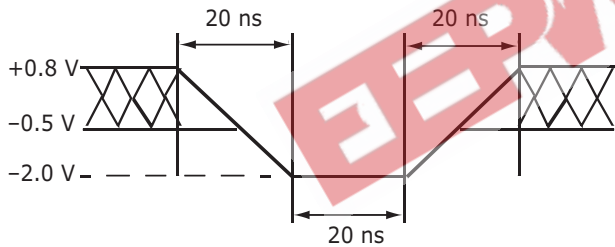

Figure 8. Maximum Negative Overshoot Waveform
2. Minimum DC input voltage on pins ACC, A9, OE#, and RESET# is -0.5 V. During voltage transitions, A9, OE#, and RESET# may overshoot V_{SS} to -2.0 V for periods of up to 20 ns. See Figure 8. Maximum DC input voltage on pin A9 and OE# is +13.0 V which may overshoot to 14.0 V for periods up to 20 ns.